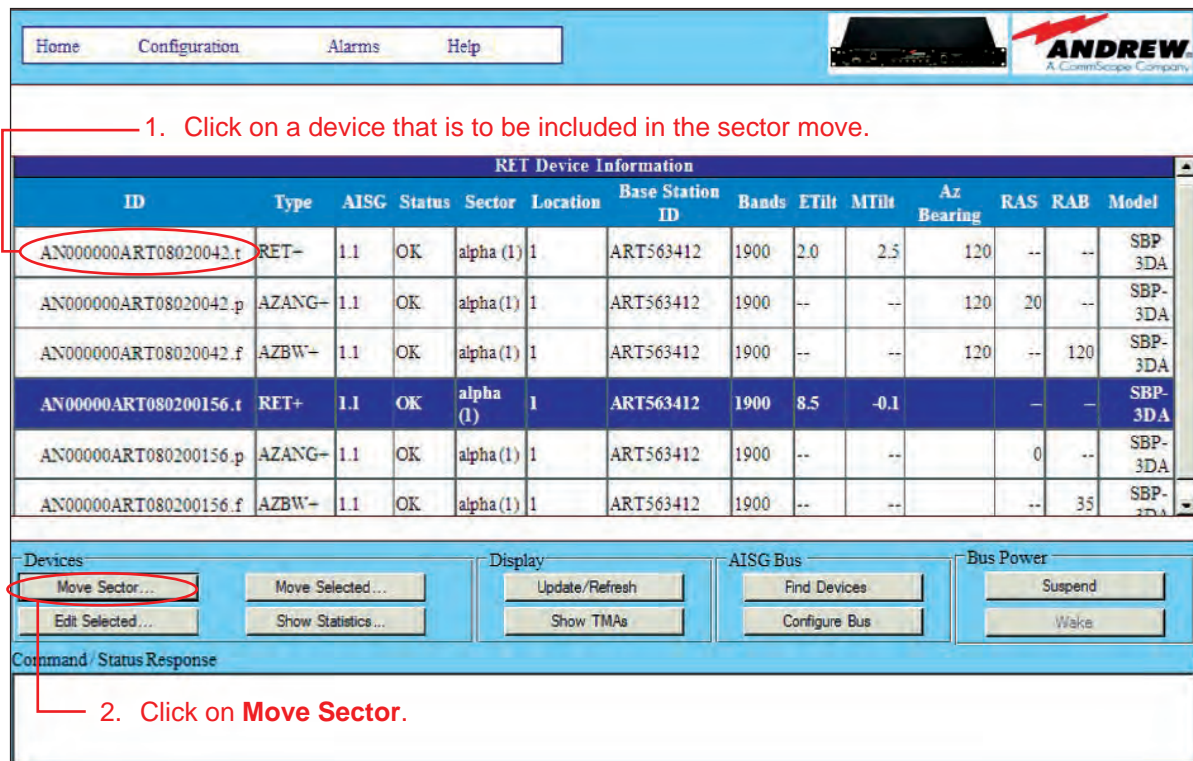

Figure 22-1. Selecting A Device That Is To Be Included In The Sector Move.
1. Select a SmartBeam axis device from the controller's main interface screen that is to be included in the sector move (Figure 22-1).
2. Click on **Move Sector** (Figure 22-1).